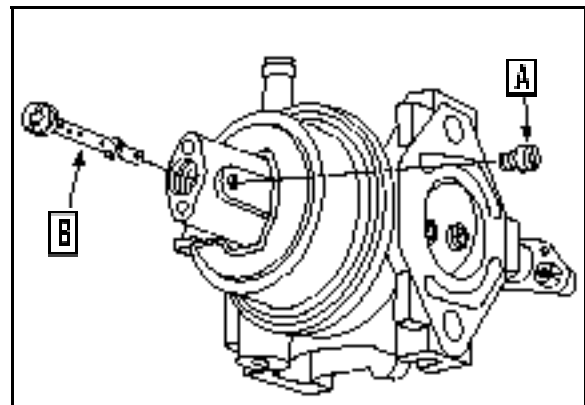

Fig. 98
5. Remove the main jet (A) from the fuel pick-up tube.
6. Remove the emulsion tube ([B] Fig. 98) with a carburetor jet screwdriver.